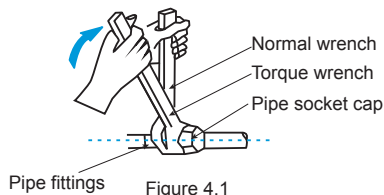

Figure 4.1
- Use two wrenches when you install or dismantle the piping, a common wrench and a torque wrench. See Figure 4.1.